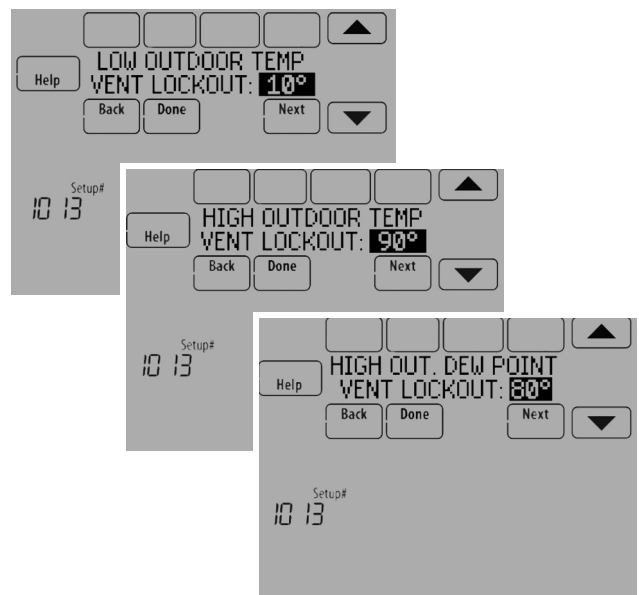

Fig. 234.
9. Select the Outdoor Condition Lockouts. See Fig. 234. See “Ventilation – Outdoor Condition Lockouts (ISU 1013)” on page 93 for more information.